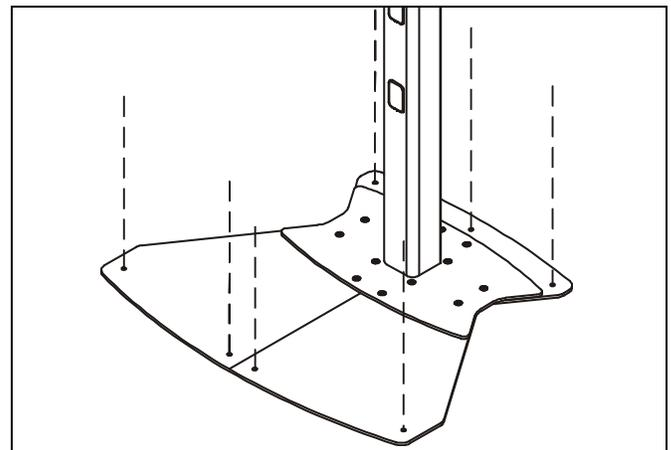

Figure 9
1. Attach the floor stand to the floor using 5/16" or 3/8" fasteners (not provided) which are appropriate for the floor's construction. (See Figure 9)